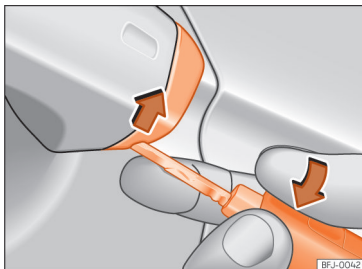

Fig. 7 Driver's door handle: pry the cover open.
- Insert the key shaft into the lower opening in the cover on the driver door handle »» **Fig. 7** then remove the cover upwards.